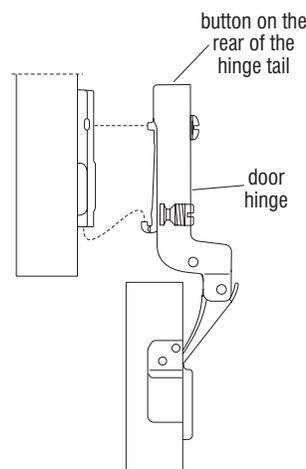

Figure 6 - Door Removal
4. To **disassemble door** from cabinet, press the button on the rear of the hinge tail inside the unit. Pull the door slightly forward to disengage the hinge connection. Repeat for the other door hinge to remove the door from the unit (Figure 6).